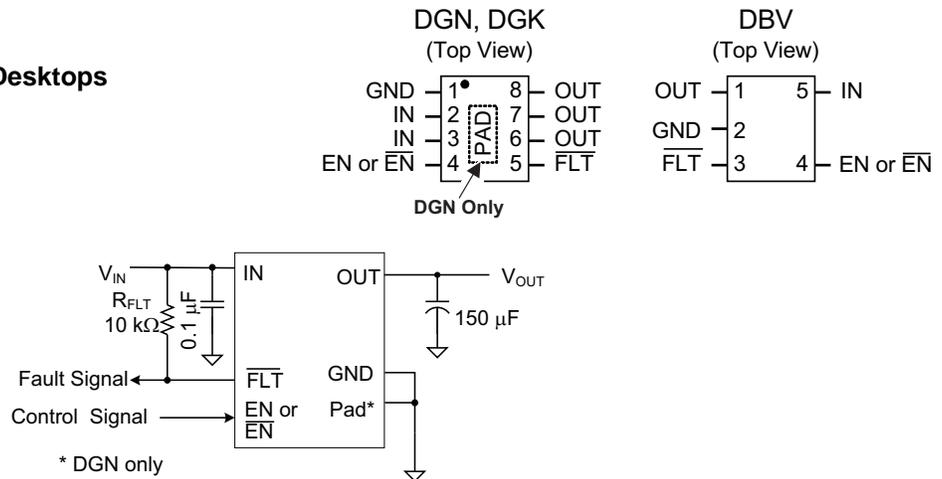

Figure 1. Typical Application
(1) Absolute maximum ratings apply over recommended junction temperature range.
(2) Voltages are with respect to GND unless otherwise noted.
(3) See the Input and Output Capacitance section.
(4) V_{OUT} was surged on a pcb with input and output bypassing per Figure 1 (except input capacitor was 22 μF) with no device failures.